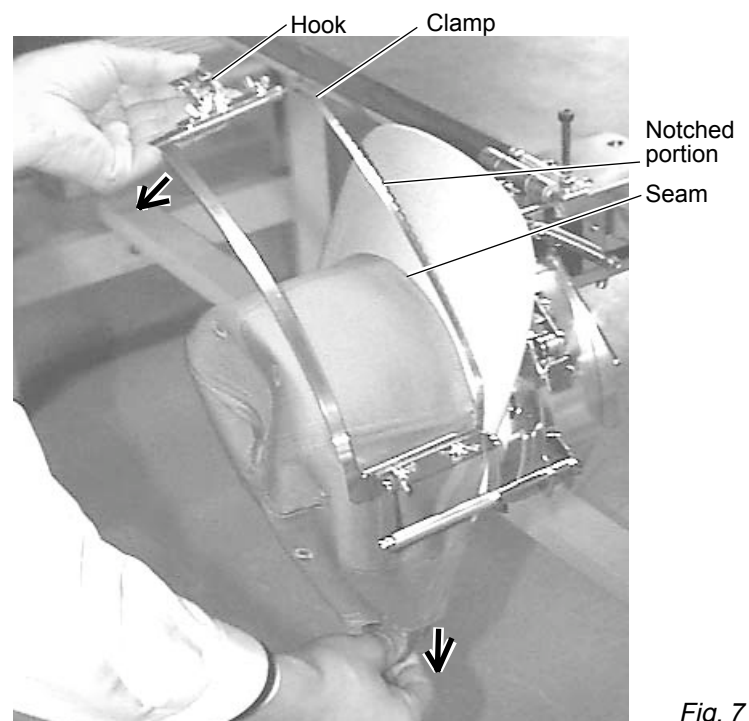

Fig. 7
5. As shown in Fig. 7, pull back part of cap and hook it temporarily on the hook and smooth out wrinkles on cap. At this time, align the center of the cap to the center mark on the cap frame so that notched portion of the clamp fits into the seam of the visor of the cap.